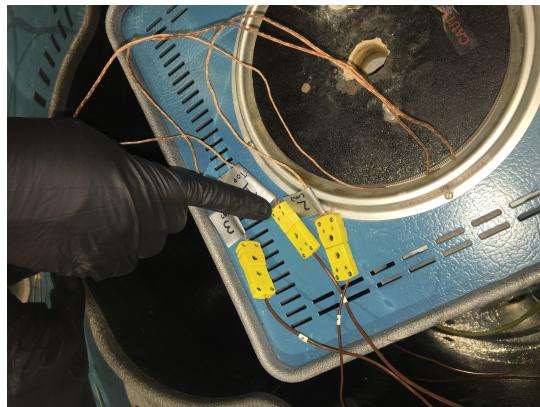

Figure 2: Thermocouples connections
4. Ensure the furnace thermocouples are connected to their corresponding connectors inside the vessel (see Figure 2)